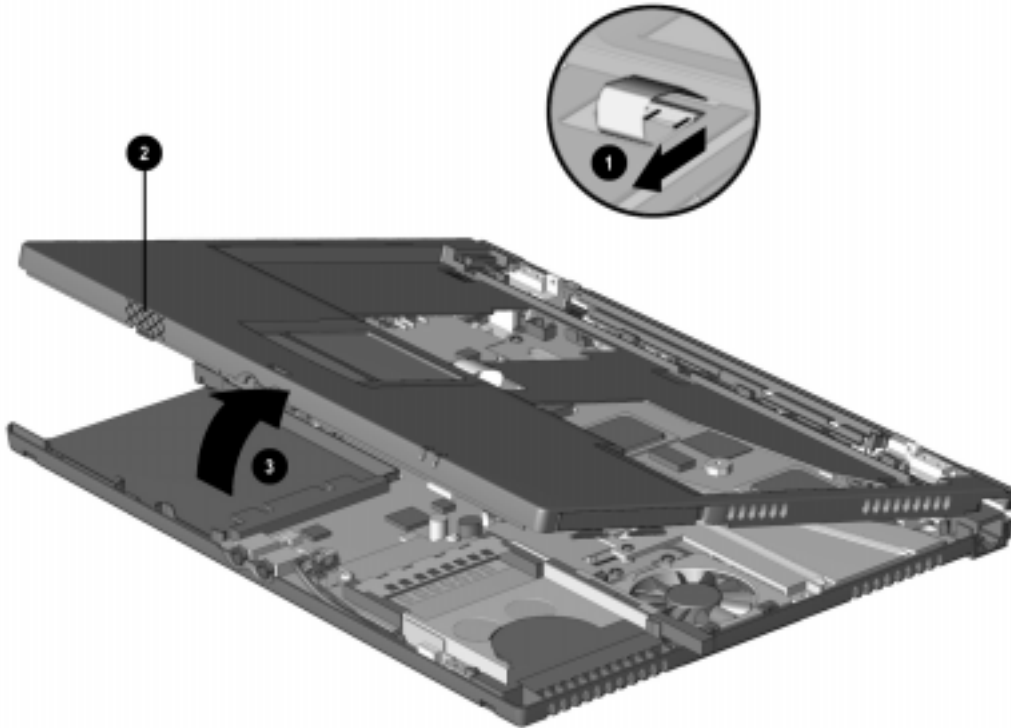

Figure 5-22. Removing the Top Cover
9. Use the connector removal tool to disconnect the TouchPad cable ❶ from the system board (Figure 5-22).
10. Press in on the front of the top cover at the highlighted area ❷, and swing the front edge of the cover up and away from the base assembly ❸.